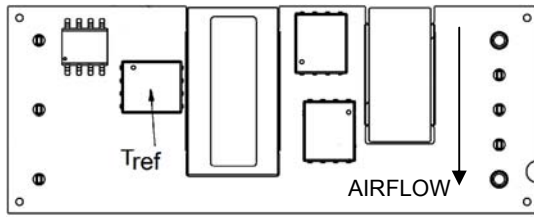

Figure 13. T_{ref} Temperature Measurement Location for Open Frame Module.
To provide protection under certain fault conditions, the unit is equipped with a thermal shutdown circuit. The unit will shutdown if the thermal reference point T_{ref} (Figure 13), exceeds $130^{\circ}C$ (typical), but the thermal shutdown is not intended as a guarantee that the unit will survive temperatures beyond its rating. The module can be restarted by cycling the dc input power for at least one second or by toggling the remote on/off signal for at least one second. If the auto-restart option (4) is ordered, the module will automatically restart upon cool-down to a safe temperature.
The thermal reference point, T_{ref} used in the specifications for open frame modules is shown in Figure 13. For reliable operation this temperature should not exceed 117°C.